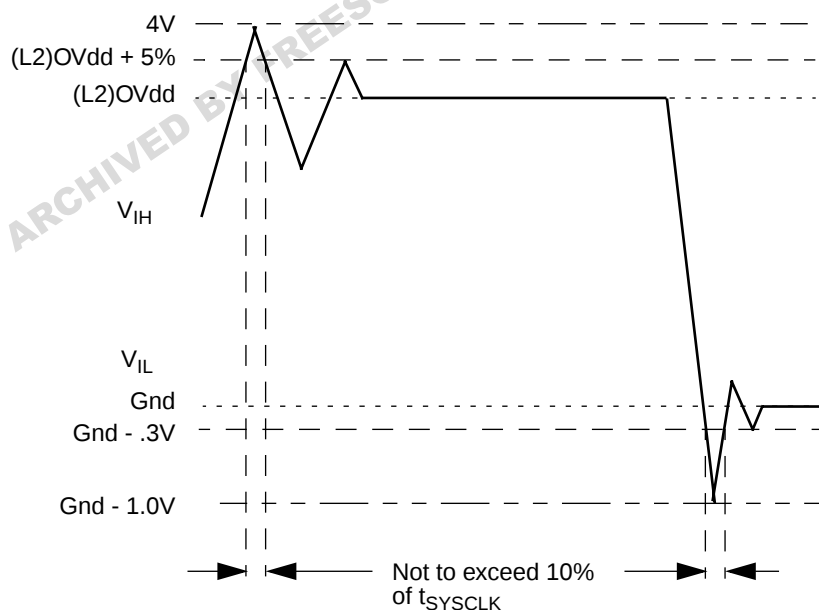

Figure 2. Overshoot/Undershoot Voltage
- V_{in} may overshoot/undershoot to a voltage and for a maximum duration as shown in Figure 2
Figure 2 shows the allowable undershoot and overshoot voltage on the MPC750.